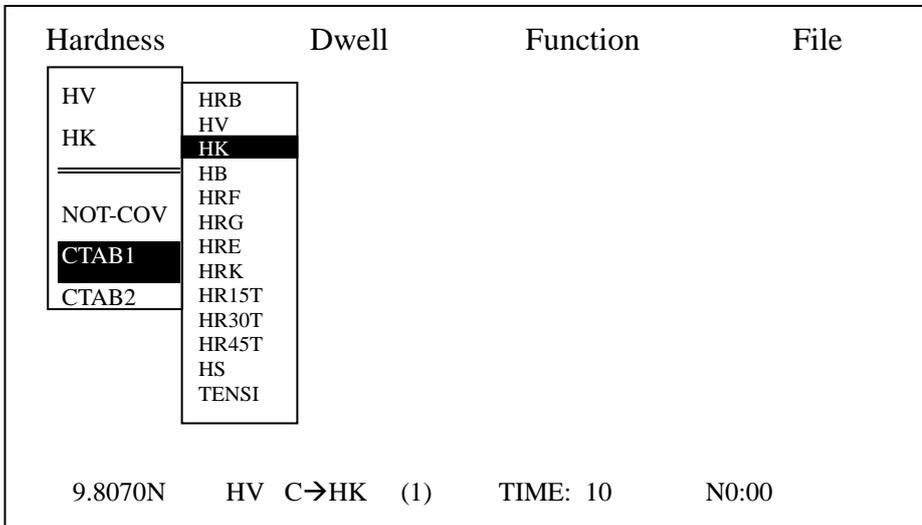
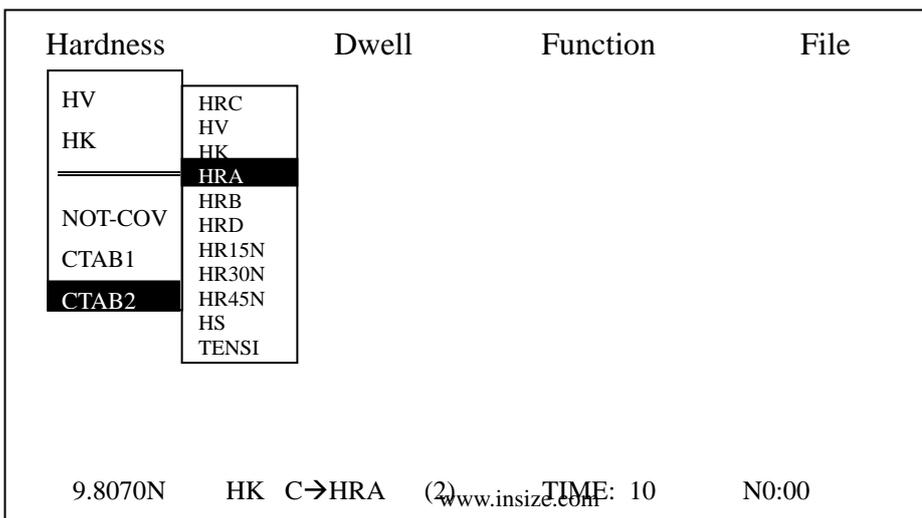

Figure 6
Figure 7
- CTAB1 \_\_\_\_\_ Nonferrous metal conversion table (Figure 6)
- CTAB2 \_\_\_\_\_ Ferrous metal conversion table (Figure 7)
Select HV or HK by pressing the direction keys on the control panel and confirm by ENTER. Press direction keys again until CATB1 is highlighted. Confirm and CATB1 will pop out a sub menu which displays conversion tables for nonferrous metals. Select one conversion scale and confirm again. When these steps are completed, the status bar will automatically display the conversion model you have set. In Figure 6, the status bar displays HV C→HK which means conversion from Vicker's hardness into Knoop's hardness. The indication of "(1)" on the right side indicates that conversion table for nonferrous metals is currently selected.
Select HV or HK by pressing the direction keys on the control panel and confirm by ENTER. Press direction key again until CATB2 is highlighted. Confirm and CATB2 will pop out a sub menu which displays conversion tables for ferrous metals. Select one conversion scale and confirm again. When these steps are completed, the status bar will automatically display the conversion model you have set. In Figure 7, the status bar displays HK C→HRA which means conversion from Knoop's hardness into Vicker's hardness. The indication of "(2)" on the right side shows that conversion table for ferrous metals is currently selected.
Figure 10 shows the single machine operation of the Vicker's hardness tester.  $d_1$  and  $d_2$  are the two diagonals of the indentation which are measured by photoelectrical encoder. HV is the Vicker's hardness value and is automatically displayed as soon as  $d_1$  and  $d_2$  are measured. HRA is the conversion scale which can be set as shown in Figure 6 or Figure 7. Similarly, other scales can also be set through conversion tables. If no conversion scale is selected, the status bar will display HV C→NOT COV. In this case, only  $d_1$ ,  $d_2$  and HV are displayed under the heading of Testing and no conversion scale is displayed. KEY stands for working status which has 3 modes:
There are two hardness conversion tables following NOT→COV: CTAB1 and CTAB2. CTAB1 is used for nonferrous metal while CTAB2 for ferrous metal. Select the desired table by ↑, ↓ keys and confirm with ENTER key. After the conversion tables are displayed (Figure 6 and 7), use direction keys to highlight the desired table and confirm by ENTER key. The selected hardness conversion scale will be displayed on the status bar then.